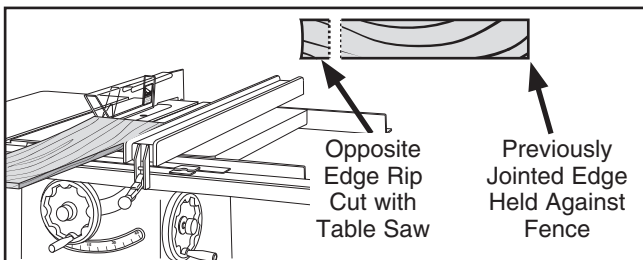

Figure 42. Rip cutting on a table saw.
2. Place the jointed edge of the 2x4 against the table saw fence and rip cut just enough off the opposite side to square up the two edges of the 2x4, as shown in **Figure 42**.